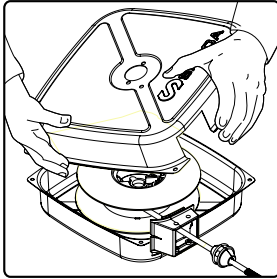
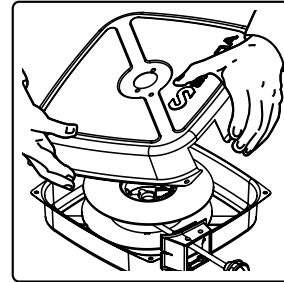

fig. 4c
fig. 5c
3. Unscrew the four screws that hold the two covers together and remove the covers and the rollers support (fig 4c and fig 5c).